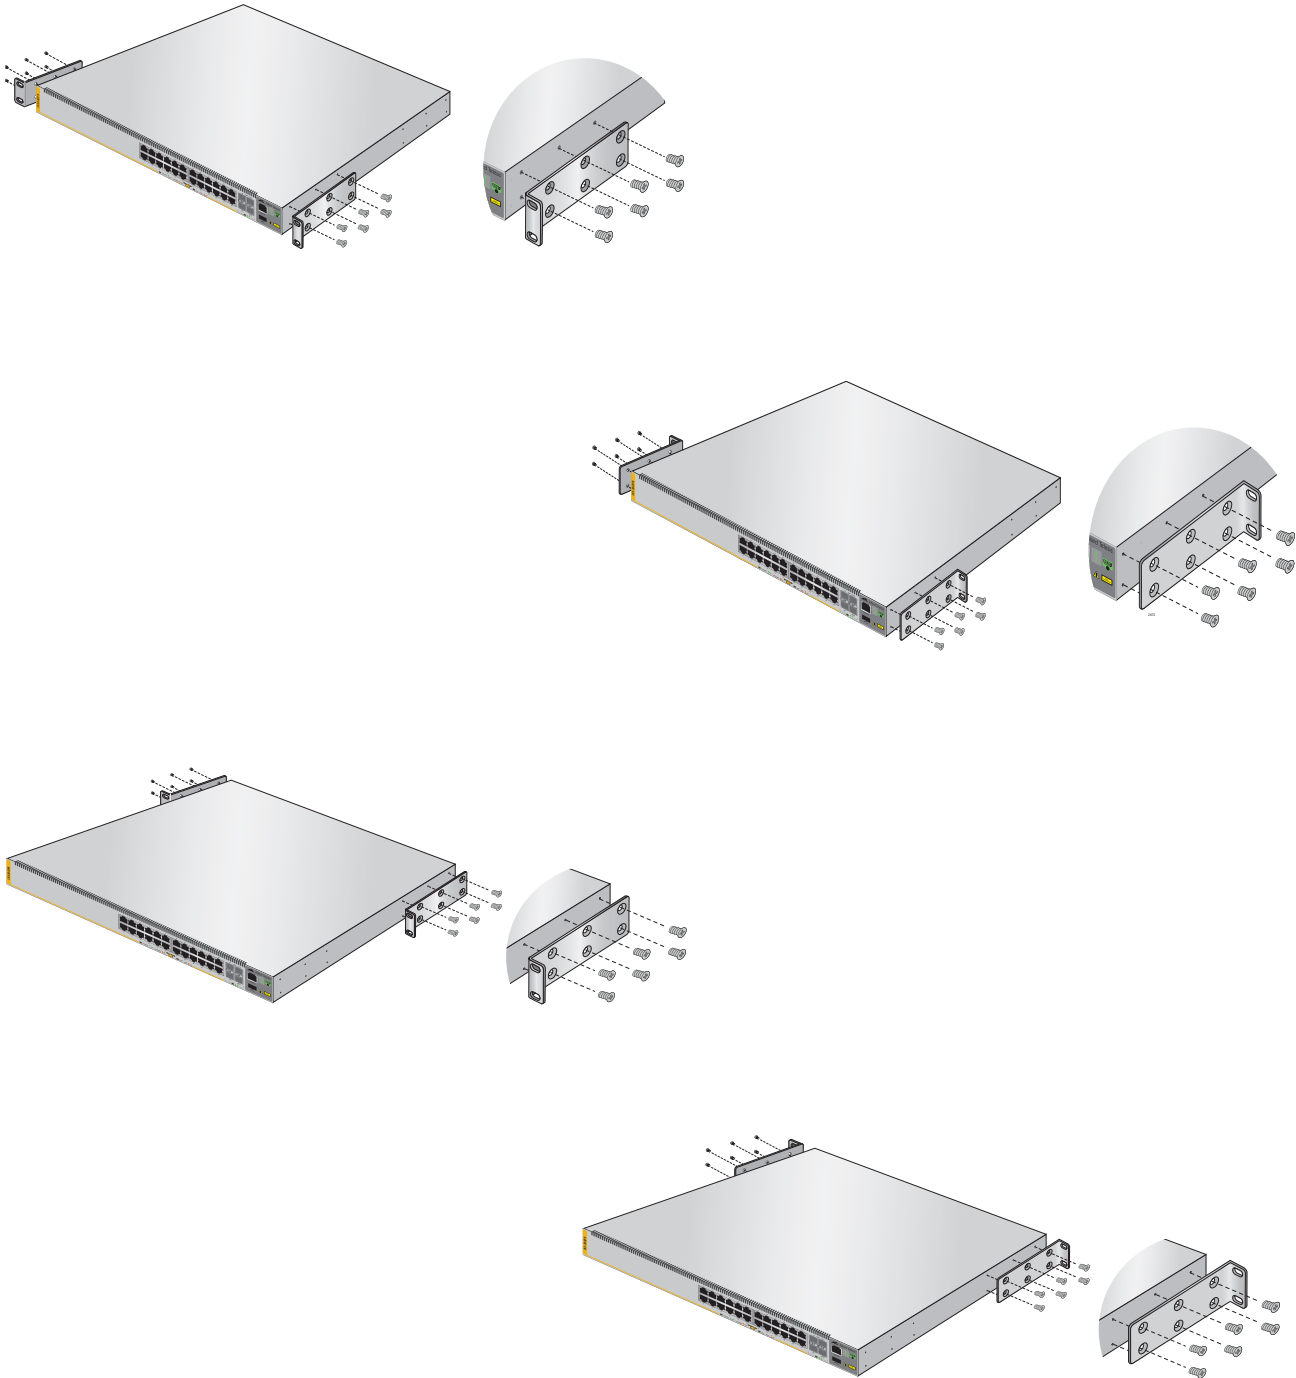

Figure 25. Attaching the Equipment Rack Brackets
4. Attach the two rack mount brackets to the sides of the switch using the bracket screws included with the unit. Figure 25 on page 68 illustrates the four possible bracket positions.